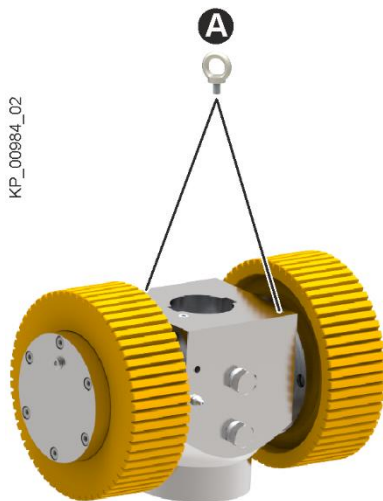

Fig. 18: Lowering the pan grinder head
- Screw eye bolts (Fig. 18/A) into the provided bores at the pan grinder head.